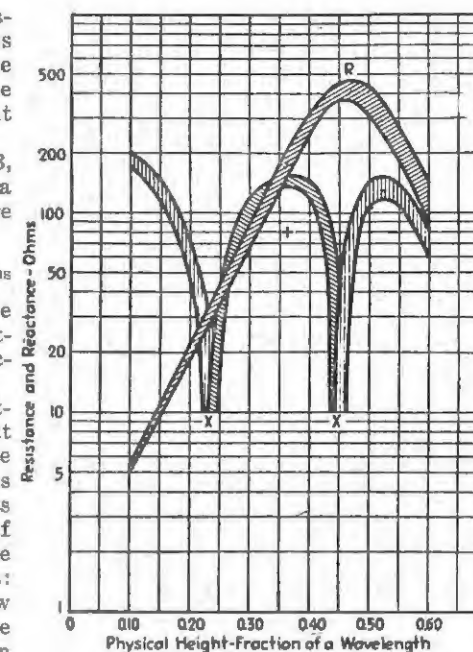

Fig. 3
For quick reference, the variation of the base terminal impedance of a vertical or slightly sloped wire has been plotted against physical height in fractions of a wavelength in Fig. 3. The height of the antenna in wavelengths is found from
The curves in Fig. 3 are drawn as bands to represent average values measured on actual towers and vertical wires. The actual impedance of a particular antenna will be affected by its proximity to other objects, its base capacity and the ground conductivity, but Fig. 3 will give a value accurate enough for design purposes. Note that the points at which reactance is zero do not coincide exactly with the quarter-wave points. This is
As an example of the use of Fig. 3, suppose a 50-foot vertical pipe antenna is to be operated at 7200 Kc. What are its impedance characteristics?
From Fig. 3, its resistance would be approximately 180 ohms and its reactance about 140 ohms positive or inductive.
2. Calculate  $R_L$  from equation (4).
3. From Fig. 3 find antenna resistance, which is  $R_x$  in this case.
2. Find physical length of antenna from equation (5).
3. From Fig. 3 find positive antenna reactance ( $X_a$ ). Note that this reactance is in effect part of the total tank coil reactance required.
3. From Fig. 3 find negative antenna reactance ( $X_a$ ). Note that this reactance must be added to the reactance of tank coil, i.e., a larger tank coil will be required to cancel out the antenna reactance.
Suppose we run through the design of an  $L$  network for use on a low-power portable transmitter for 3.5, 7, and 14 Mc bands. We choose for the longest practical antenna a single sloping wire 30 feet long. At 3.5 Mc this would be 0.107 wavelengths long by equation 5. From Fig. 3 its base resistance would be 5.2 ohms and its reactance—185 ohms. The total  $R_t$  in the circuit will be approximately  $5.2 + 2 = 7$  ohms. If we assume an average load impedance of 2000 ohms for the amplifier (this will vary as explained heretofore) then from left hand section of Fig. 4,  $X_c$  is 119 ohms and  $C = 390$  mmfds.  $X_t$  is found to be 120 ohms for resonance but in addition we must add 185 ohms of coil reactance to cancel the negative antenna reactance. Then  $X_t = 120 + 185 = 305$  ohms or  $L = 14$  microhenries.